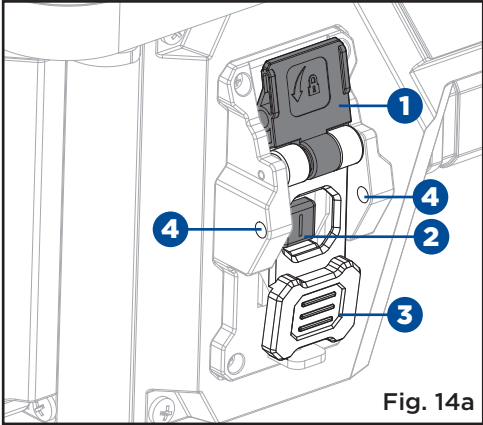
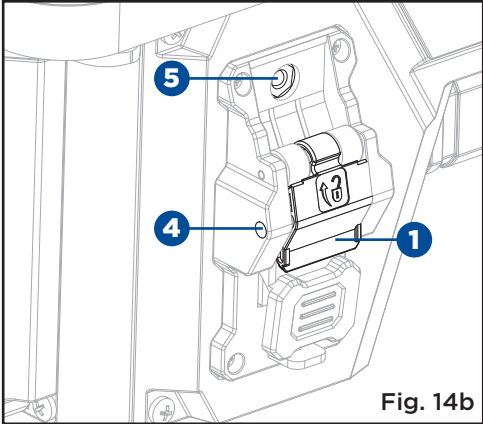

Fig. 14a
Fig. 14b
**ON/OFF SWITCH AND RESET BUTTON (Fig. 14a-14b)**
**TO TURN YOUR ROUTER TABLE ON AND OFF: (Fig. 14a)**
- Flip the switch cover (1) upward.
- Press the switch I (2) to turn on the router.
- Press the switch paddle (3) to turn off the router.
**TO LOCK YOUR ROUTER TABLE: (Fig. 14b)**
- Flip the switch cover (1) downward.
- The holes (4) are provided in the switch for insertion of a padlock with a removable shank to lock the router table off.
**RESET BUTTON (Fig. 14b)**